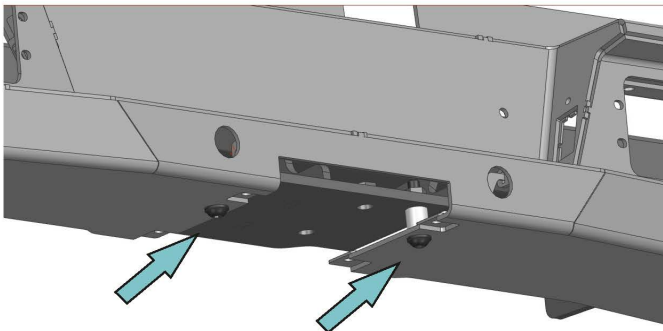

Fig. 33
30. Insert spacer (item L) between bumper body (item 1) and bracket (item 2). Fix bumper body (item 1) on bracket (item 2) using screws M10 and washers 10 (item B,F) (Fig 33).